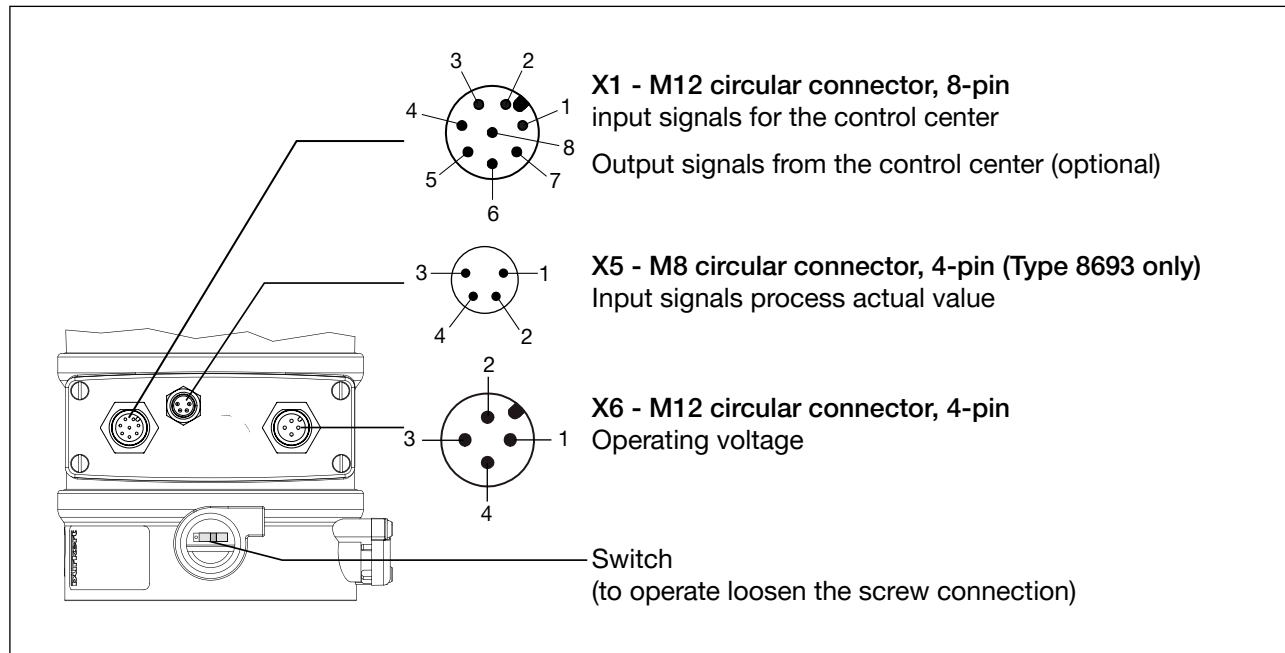

Figure 29: Electrical connection with 24 V DC circular plug-in connector
** Position of the switch, see „Figure 29: Electrical connection with 24 V DC circular plug-in connector“.